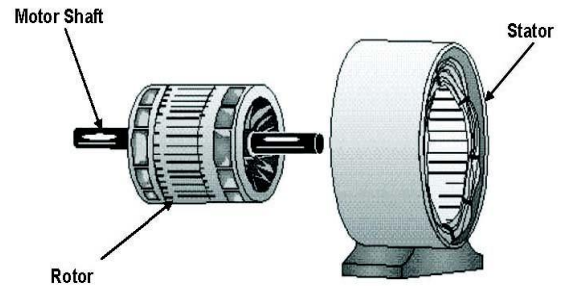

Figure 3
- In an AC motor, the input power is used to magnetize the stator core. (See Figure 3)